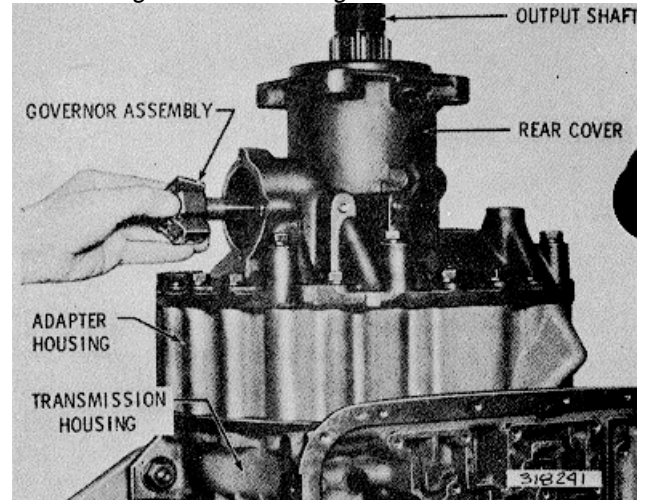

Fig. 7-22. Installing governor assembly
(5) Install the governor assembly into the rear cover by rotating it counterclockwise (fig. 7-22).
(6) Install the governor cover gasket and cover, and retain them with four 5/1618 x 9/16-inch bolts. Tighten the bolts to 10 to 13 pound feet (14 to 17 Nm) torque.